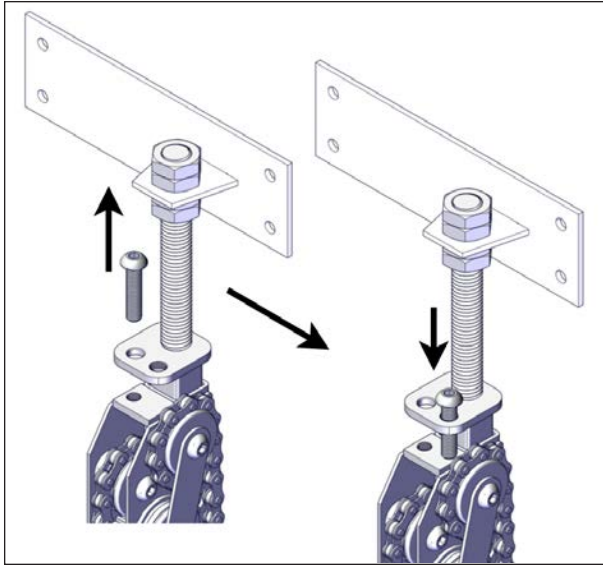

FIGURE 71: JACK LOCKING SCREW REMOVAL
7. Once the U-frames are installed, the jack lock screw located at the top of the non-motor side jacks can now be unlocked safely. Remove the M8 x 35 mm locking screw and reinstall it in the hole next to it so you don't lose it. Remove the screw on both non-motor jacks. You can remove the red tag on the non-motor jacks, see Figure 71.